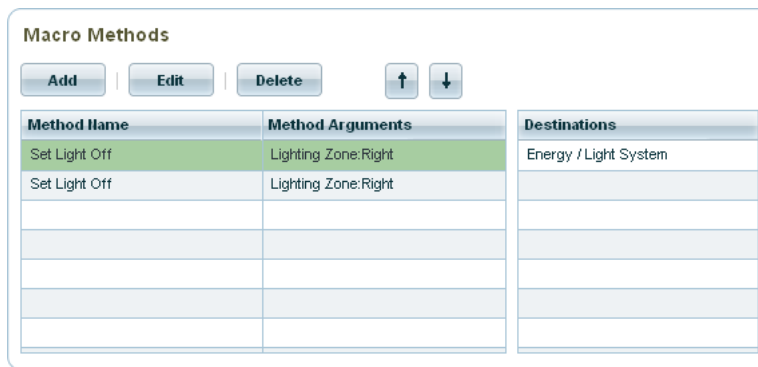

FIG. 275 Control Macro Management Page - Macro Methods Window
Macro methods represent explicit asset control methods included in a control macro. When a control macro is selected in the *Control Macros* window, the properties of the selected macro are displayed in the **Macro Methods** window. Use the options in the *Macro Methods* window to define a new macro control method for the selected control macro, or to edit or delete a selected macro control method (FIG. 275). See the *Working With Macro Methods* section on page 174 for details.
2. Click **Add** in the *Macro Methods* window (see FIG. 275 on page 167) to invoke the *Control Macro Wizard*.